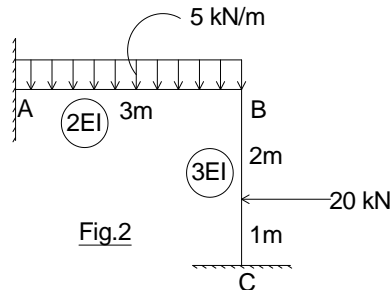

Fig.2
13. Analyse the frame shown in fig.2 by using flexibility matrix method. Draw the bending moment diagram and Shear force diagram.